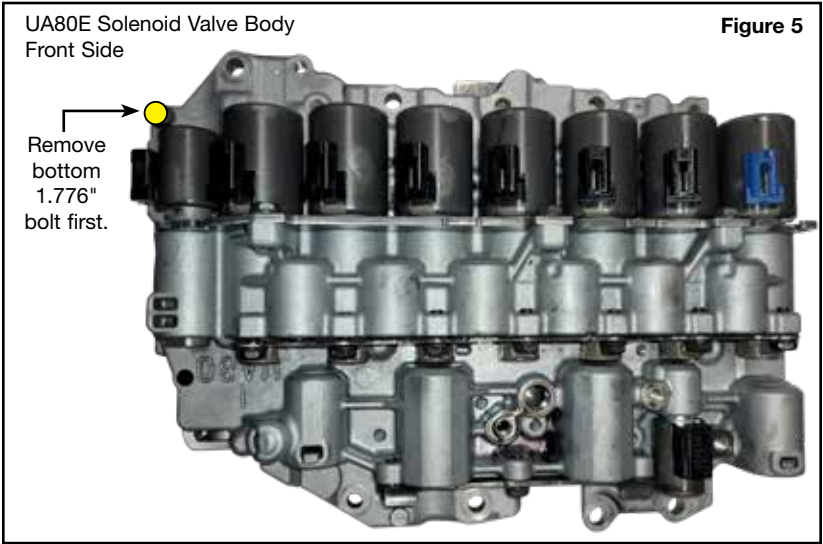
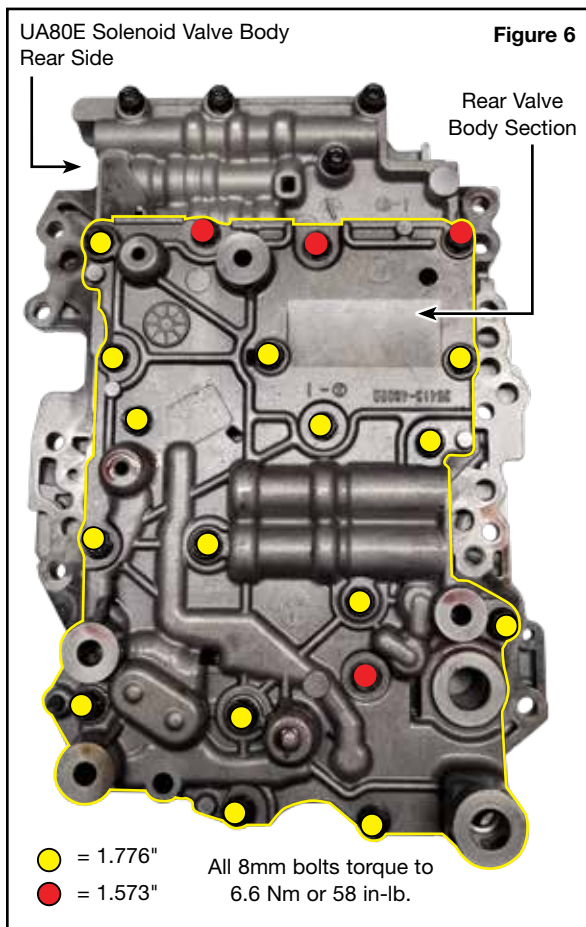
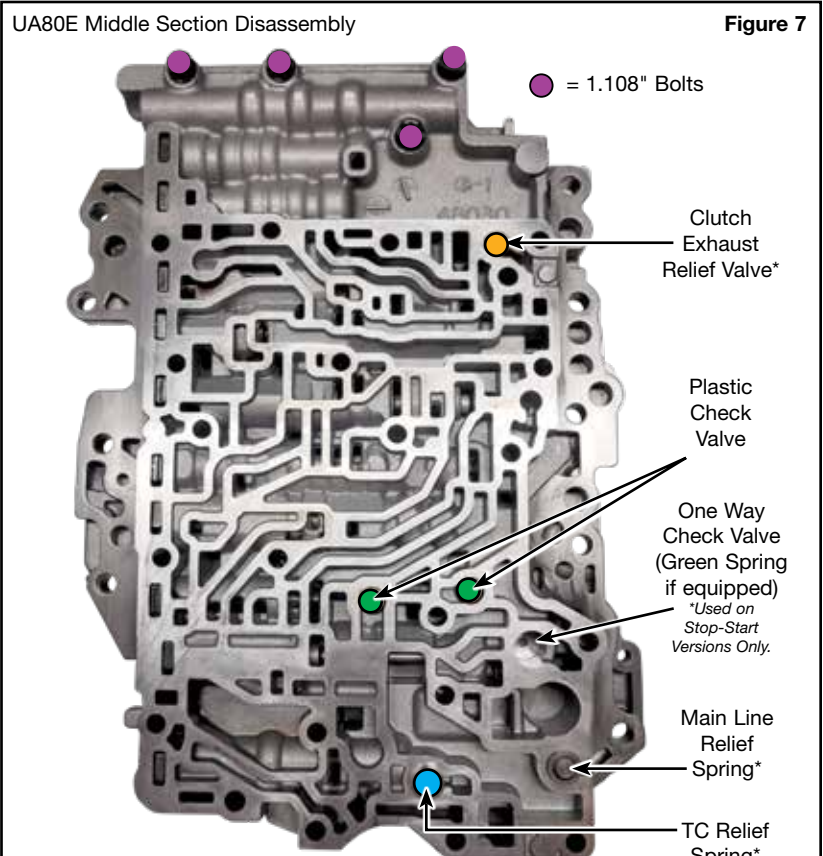

Figure 5
Figure 6
Figure 7
Remove bottom 1.776" bolt first (Figure 5).
- a. Flip valve body over and remove all 8mm bolts and remove rear valve body section (yellow, red circles Figure 6).
- b. Once the rear valve body section is removed, note the locations of the small parts and plastic check valves to remove and save for later reinstallation (Figure 7).
- c. Remove the four 8mm bolts and remove the middle valve body section (purple circles, Figures 7).
- Install the middle valve body onto the solenoid body and separator plate then reinstall the small parts (Figure 7).
- Install the four bolts at the top of the middle valve body and snug them, do not tighten them down. Install all of the small parts into the rear side of the middle valve body (purple circles, Figure 7).
- Flip over the rear valve body section with plate and install the plate side of the rear valve body against the rear side of the middle valve body. Install all of the 8mm bolts into their locations (yellow, red circles, Figure 6) and the single bolt that comes in from the front side of the solenoid body (Figure 5). After all of the bolts are snugged down, torque them all to 58 in-lb including the bolts (purple circles, Figure 7) and the 1.776" bolt (yellow circle, Figure 5).